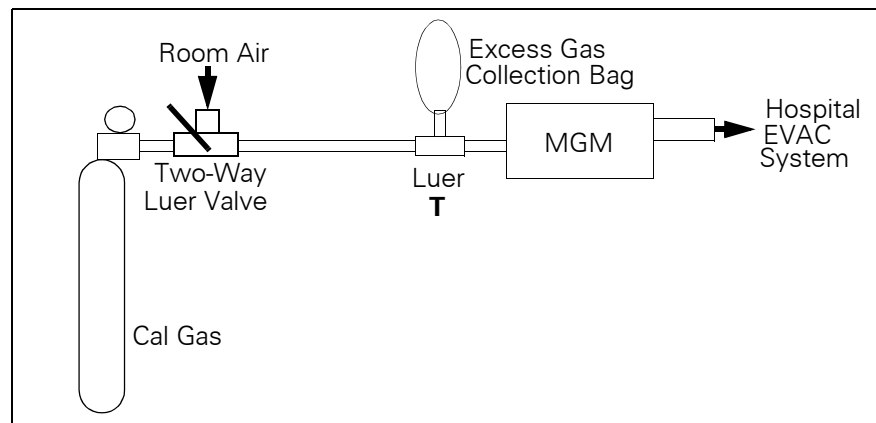

Figure 4-1 Gas Calibration / Test Setup
10. When "Supply Gas Mixture and then Press Continue" displays, connect standard cal gas to MGM as illustrated in Figure 4-1.